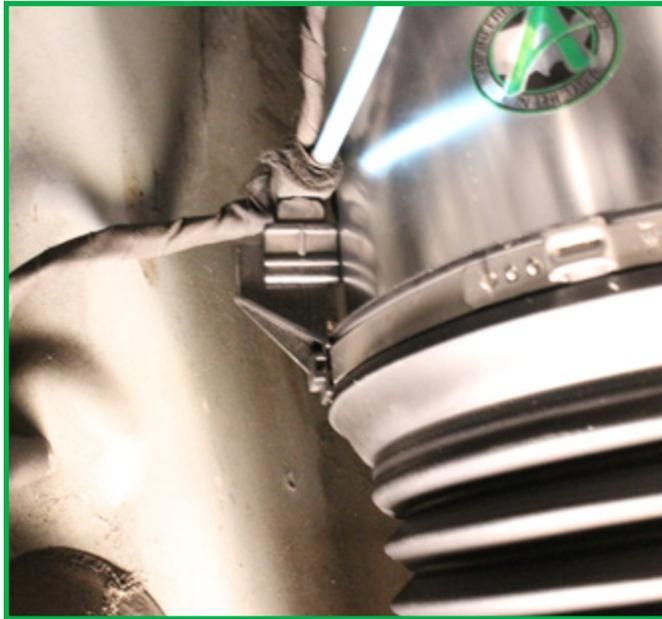

FIGURE 22
6. Clip wiring harness tab to new strut clip. (Figure 22)